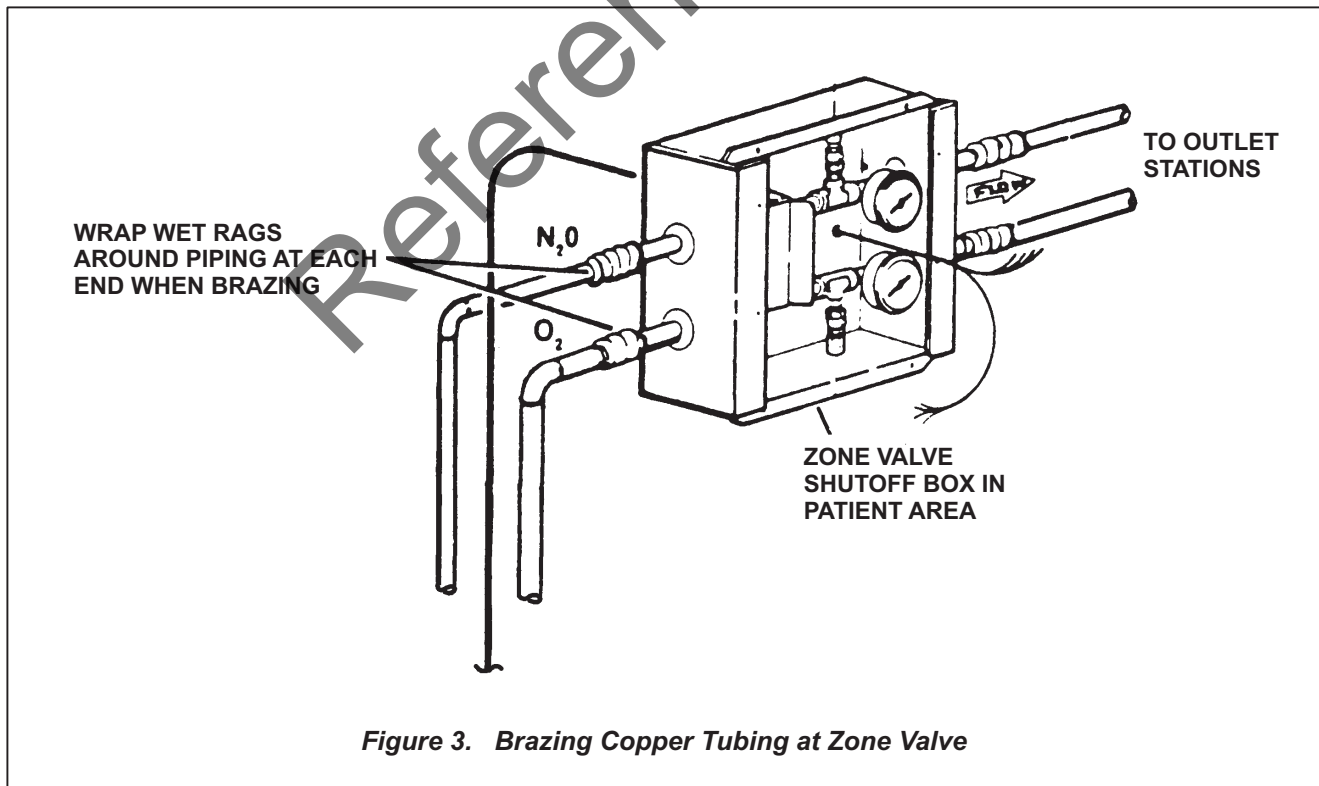

Figure 3. Brazing Copper Tubing at Zone Valve
2. If the optional Zone Valve is installed, wrap wet rags around piping to prevent heat damage to the valve body. See Figure 3.